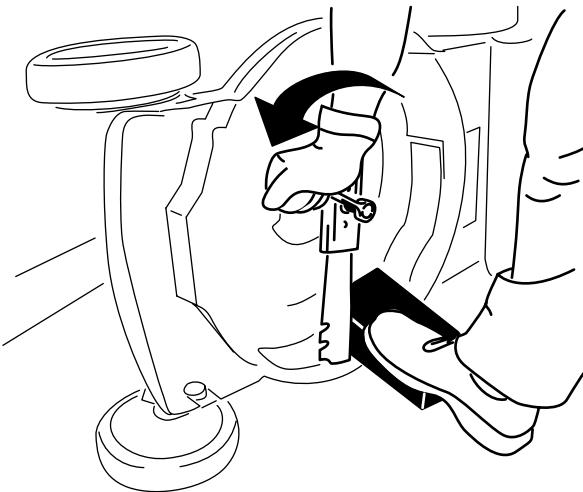

Figure 27
4. Remove the blade, saving all mounting hardware (Figure 27).
3. Use a block of wood to hold the blade steady (Figure 27).